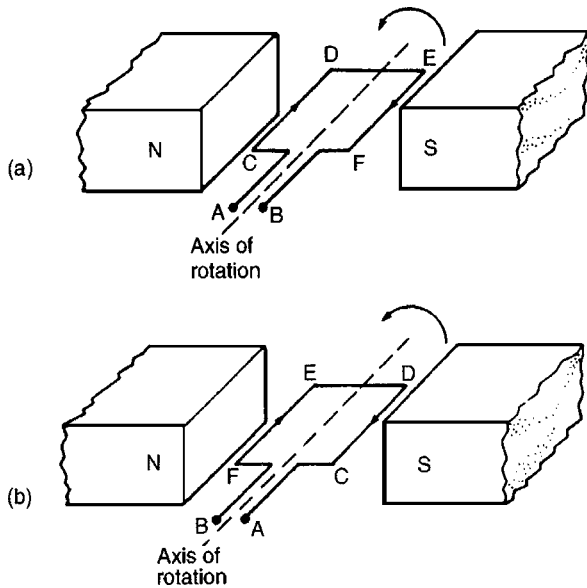
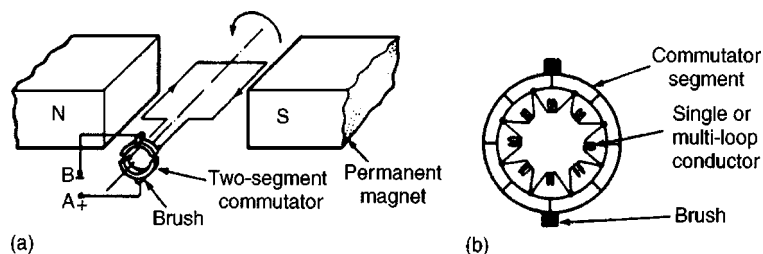

Figure 22.1
Figure 22.2
In an electric motor, conductors rotate in a uniform magnetic field. A single-loop conductor mounted between permanent magnets is shown in Fig. 22.1. A voltage is applied at points A and B in Fig. 22.1(a)
to the current flowing from E to F (from Fleming's left hand rule). If the loop is free to rotate, then when it has rotated through 180° , the conductors are as shown in Fig. 22.1(b). For rotation to continue in the same direction, it is necessary for the current flow to be as shown in Fig. 22.1(b), i.e. from D to C and from F to E. This apparent reversal in the direction of current flow is achieved by a process called **commutation**. With reference to Fig. 22.2(a), when a direct voltage is applied at A and B, then as the single-loop conductor rotates, current flow will always be away from the commutator for the part of the conductor adjacent to the N-pole and towards the commutator for the part of the conductor adjacent to the S-pole. Thus the forces act to give continuous rotation in an anti-clockwise direction. The arrangement shown in Fig. 22.2(a) is called a 'two-segment' commutator and the voltage is applied to the rotating segments by stationary **brushes**, (usually carbon blocks), which slide on the commutator material, (usually copper), when rotation takes place.
In practice, there are many conductors on the rotating part of a d.c. machine and these are attached to many commutator segments. A schematic diagram of a multi-segment commutator is shown in Fig. 22.2(b).
- (iii) **field windings**, i.e. many turns of a conductor wound round the pole core; current passing through this conductor creates an electromagnet, (rather than the permanent magnets shown in Figs. 22.1 and 22.2),